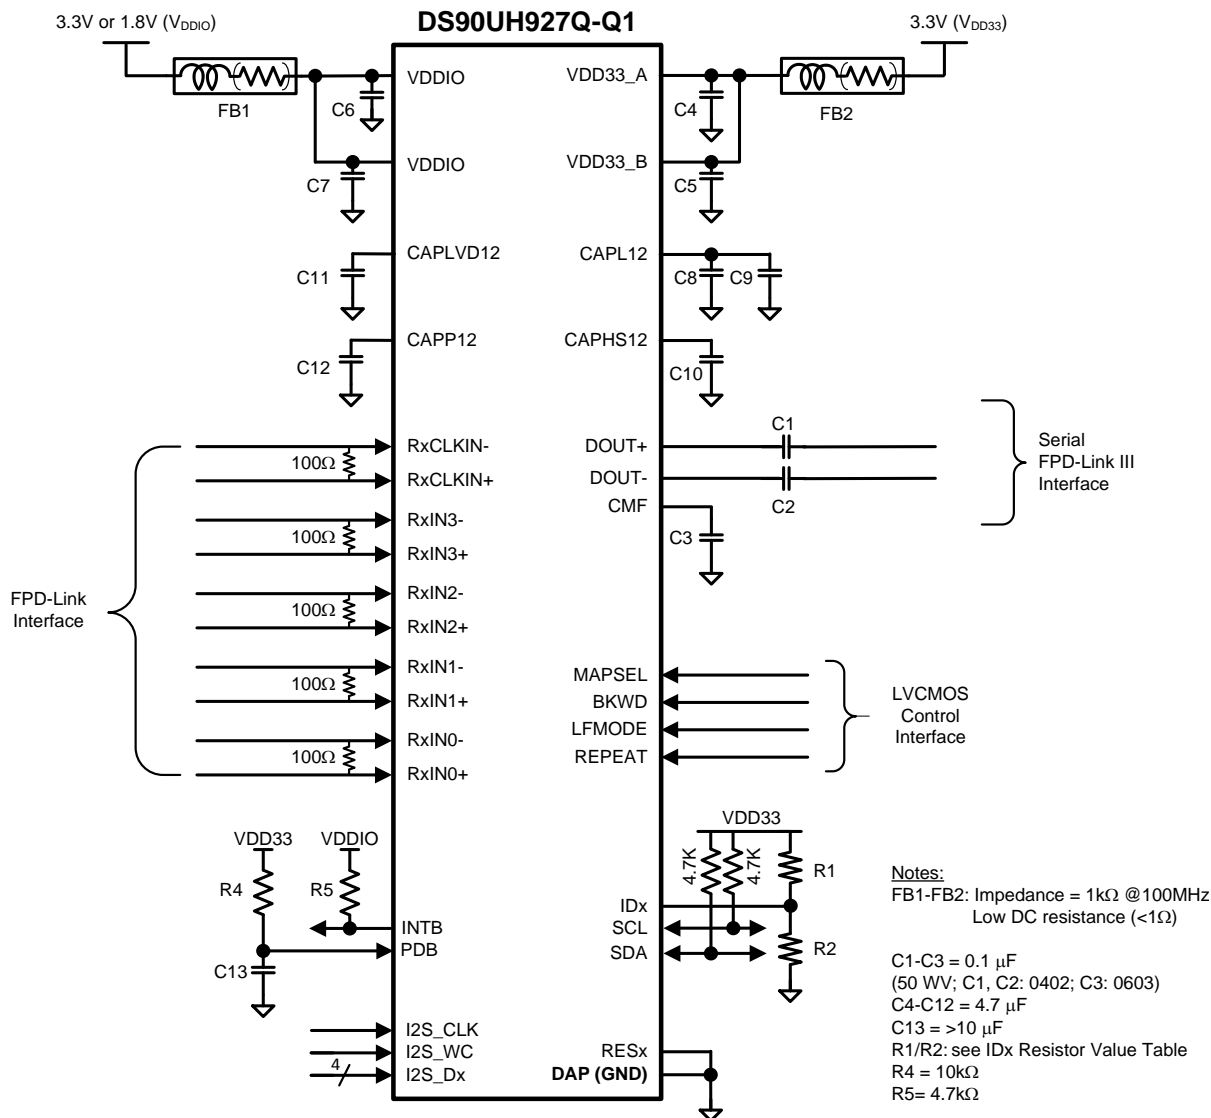

Figure 29. Typical Connection Diagram
Figure 29 shows a typical application of the DS90UH927Q-Q1 serializer for an 85 MHz 24-bit Color Display Application. The 5 LVDS input pairs require external 100Ω terminations. The CML outputs must have an external 0.1-μF AC coupling capacitor on the high speed serial lines. The serializer has internal CML termination on its high speed outputs.
Figure 29 shows a typical application of the DS90UH927Q-Q1 serializer for an 85-MHz 24-bit Color Display Application. The CML outputs must have an external 0.1- μ F AC coupling capacitor on the high speed serial lines. Bypass capacitors are placed near the power supply pins. At a minimum, six (6) 4.7- μ F capacitors and two (2) additional 1- μ F capacitors should be used for local device bypassing. Ferrite beads are placed on the two (2) VDDs (VDD33 and VDDIO) for effective noise suppression. An RC delay is placed on the PDB signal to delay the enabling of the device until power is stable.